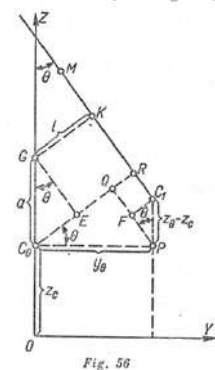

Fig. 56
- See L15S16 for (y_B, z_B) in the ship-fixed coordinate system. Fig. 56.